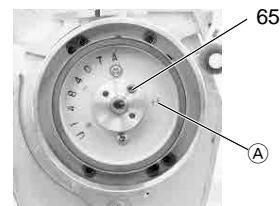

Fig. 11
When refitting the rotor the recess in the headwheel must be visible through hole (A) of the rotor (Fig. 11). Reassemble in reverse order.
- Remove the earth spring (Pos. 65) of the headwheel (Fig. 11).